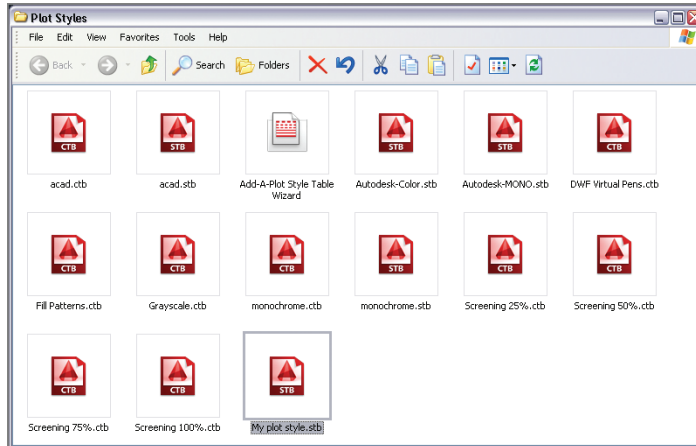

FIGURE 14.11 The newly named plot style table appears in Windows Explorer.
- Click Finish to close the Add Plot Style Table wizard. The named plot style table you just created, `My plot style.stb`, appears in the Windows Explorer window that was opened in step 1 (see Figure 14.11). Click the close box in Windows Explorer.